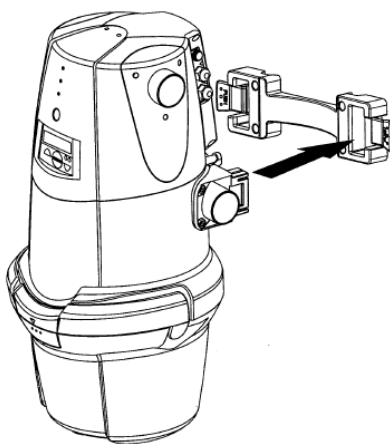

Figure 11
4. Fit the main vacuum unit, inserting the rectangular projections frontally into the corresponding recesses in the wall bracket, and applying pressure until they click in. (Figure 11).